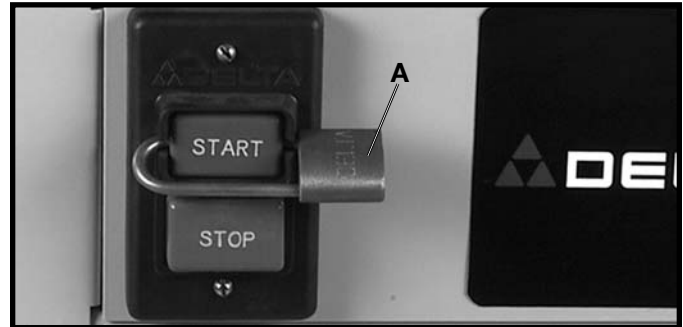

Fig. 11
**IMPORTANT:** When the machine is not in use, the switch should be locked in the OFF position using a padlock (A) Fig. 11, with a 3/16" diameter shackle to prevent unauthorized use.